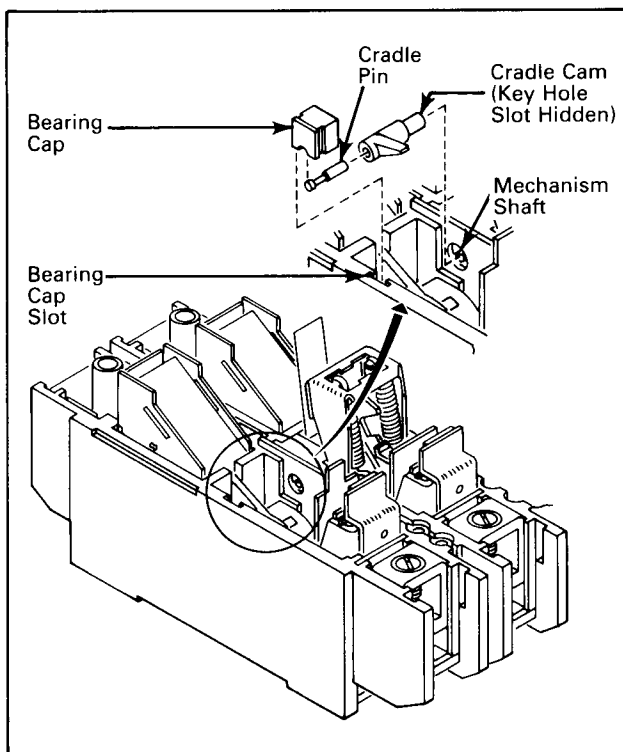

Fig. 2-5. Cradle Cam Assembly
2-10. Install cradle cam, cradle pin and bearing cap into left-hand pole (Fig. 2-5) using the following steps:
a. Put cradle pin into cradle cam (Fig. 2-5).
b. Before assembling cradle cam and cradle pin onto circuit breaker mechanism shaft, apply one drop of epoxy cement to inside of key hole slot in cradle cam (Fig. 2-5). Wipe off excess cement.
d. Secure free end of cradle pin in position. Tip circuit breaker gently towards bearing cap slot. Cradle pin will slide from cradle for raised end to be held by bearing cap. Press bearing cap into base slot provided. (See Fig. 2-5)